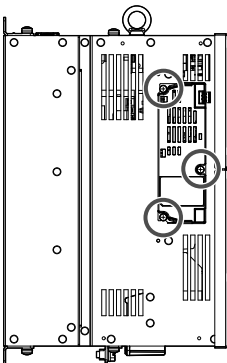

Figure 17 Location of Screws
7. Use a Phillips screwdriver (M4) and the screws included in the option package to fasten the option to the drive in the three locations shown in Figure 17.